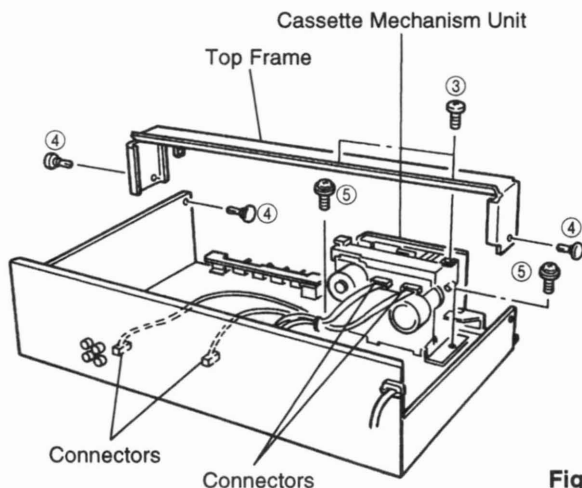

Fig. 2
- Remove 2 screws (③) and 3 plastic rivets (④) in Fig. 2 and then remove the Top Frame.
- Remove 2 screws (⑤) in Fig. 2 and then pull off the Cassette Mechanism Unit to the upper side gently.
- Remove 4 connectors (#1 to #4) at the Mechanism side in Fig.2. (See page 3, INTERNAL VIEW)